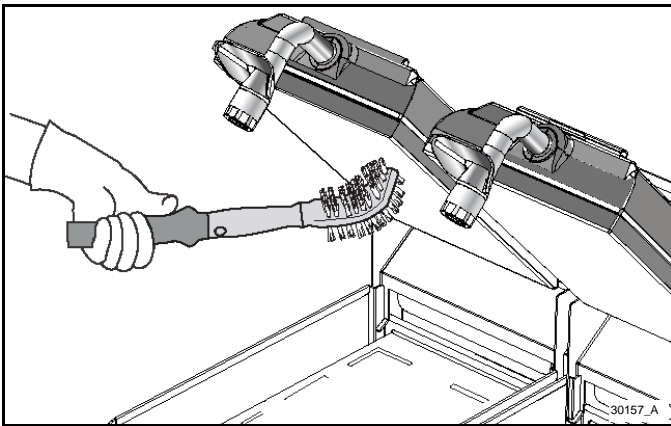

Figure-117
24. If needed, scrub the upper platen with the Kay® double-sided grill brush. See Figure-117.